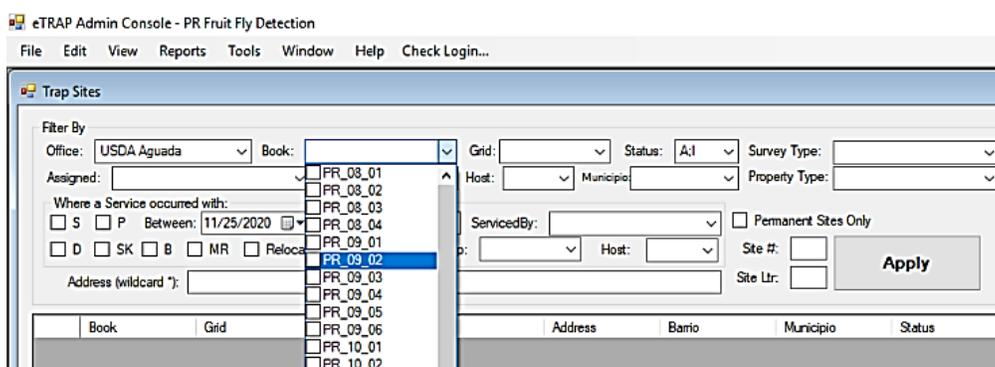

Figure 11. Book Dropdown Selection
Step 3: Select “Book” and click apply. (Figure 11)